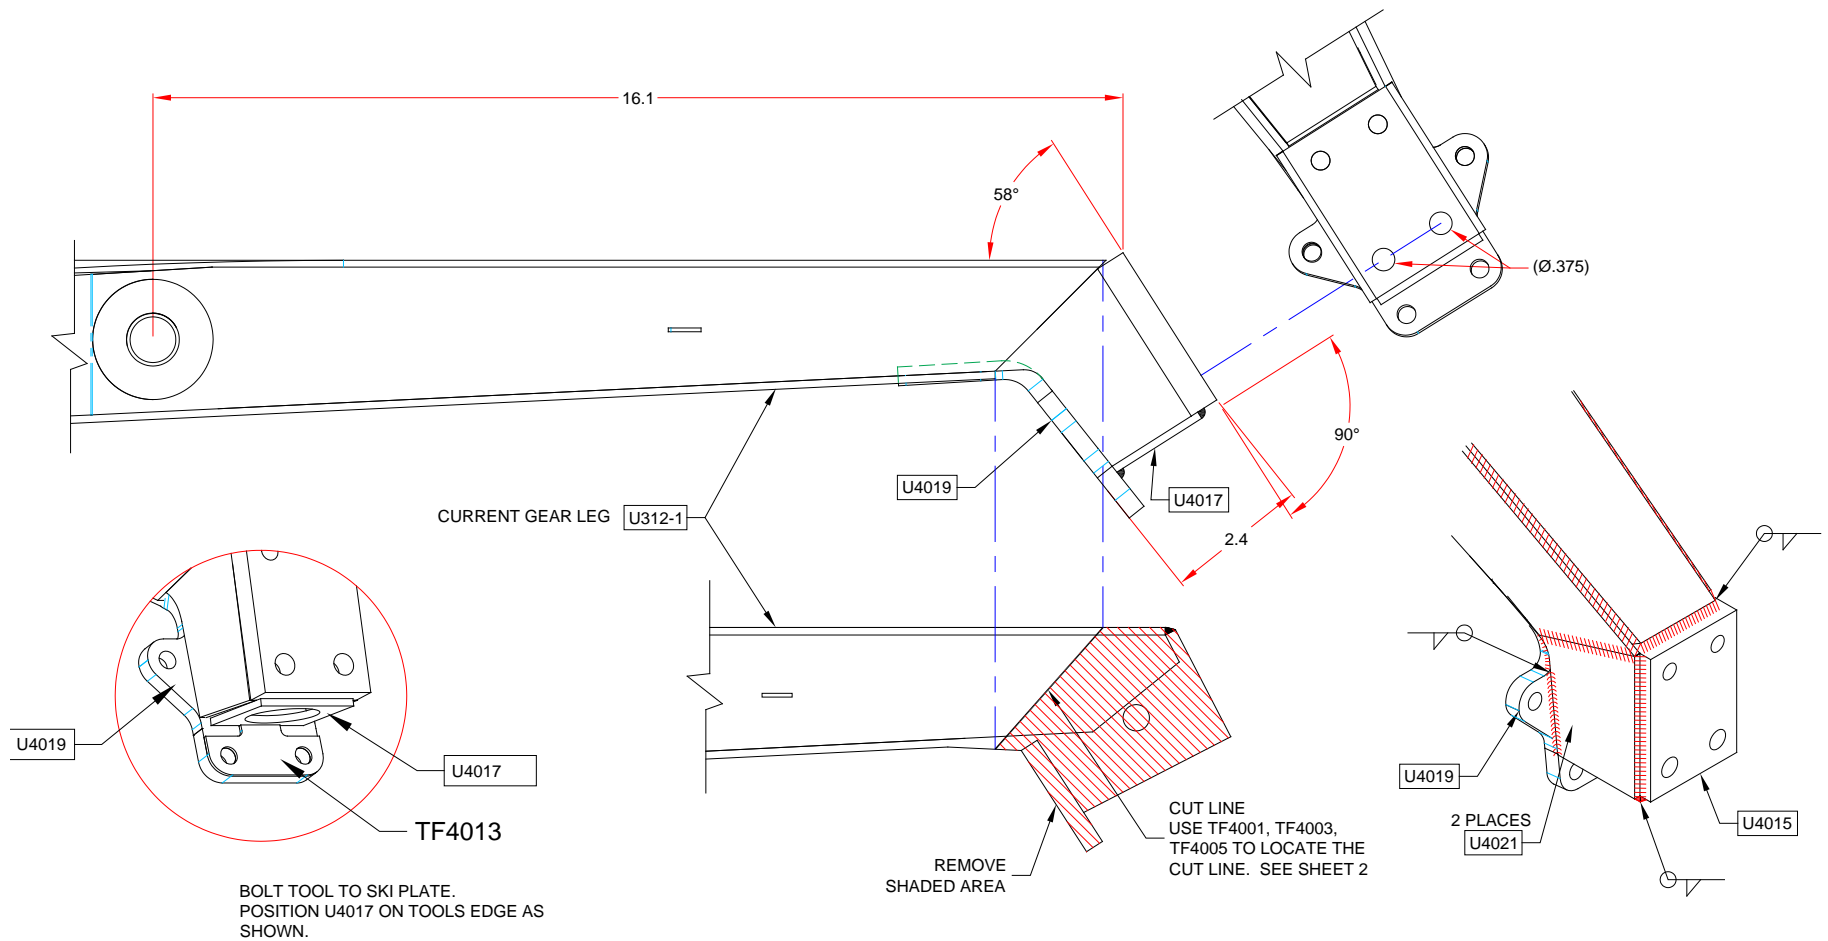

Figure 2 Part Location and Welding Details
5. Locate lower leg parts as shown in Figure 2. Locate U4017 bottom plate using TF4013.
6. Weld all lower leg parts in place per Figure 2